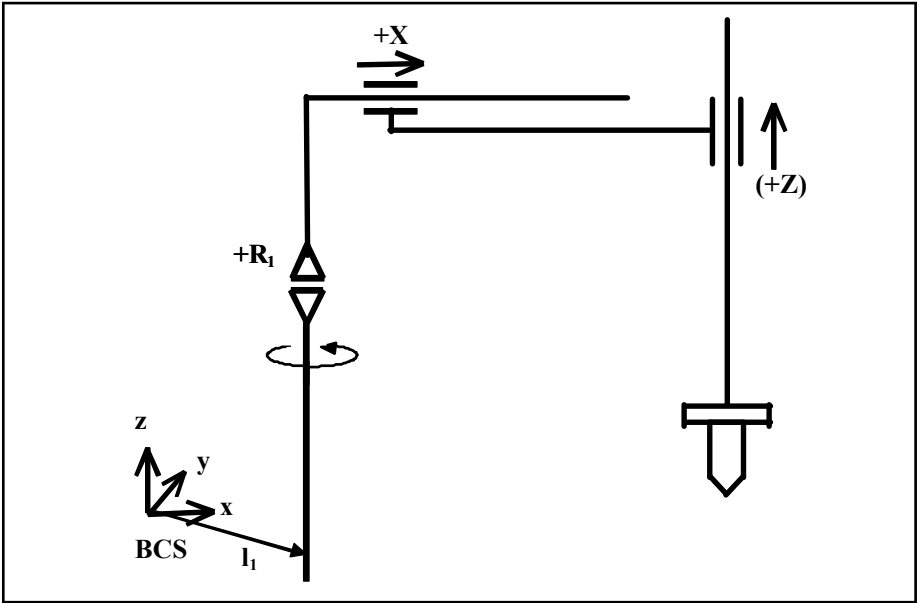
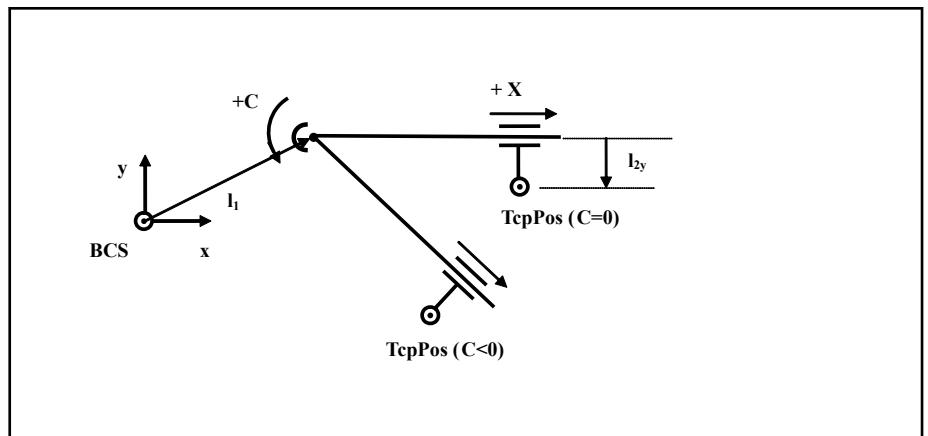

Fig. 11-100: 2/3-axis polar kinematics (side view)
Fig. 11-101: 2/3-axis polar kinematics (top view)
The machine configuration of the polar kinematics consists of a rotary axis c on which a linear axis x is mounted. The linear axis rotates along by the rotary axis. The vertical axis z can optionally be available (cf. fig. 11-100 "2/3-axis polar kinematics \(side view\)" on page 386, fig. 11-101 "2/3-axis polar kinematics \(top view\)" on page 387). The transformation is used at point of action 2, i.e. it acts between the machine coordinate system MCS = (C,X (Z)) and the basic coordinate system BCS = (x,y (z)).
The BCS zero point can be located at any position of the working face (refer to fig. 11-100 "2/3-axis polar kinematics \(side view\)" on page 386).